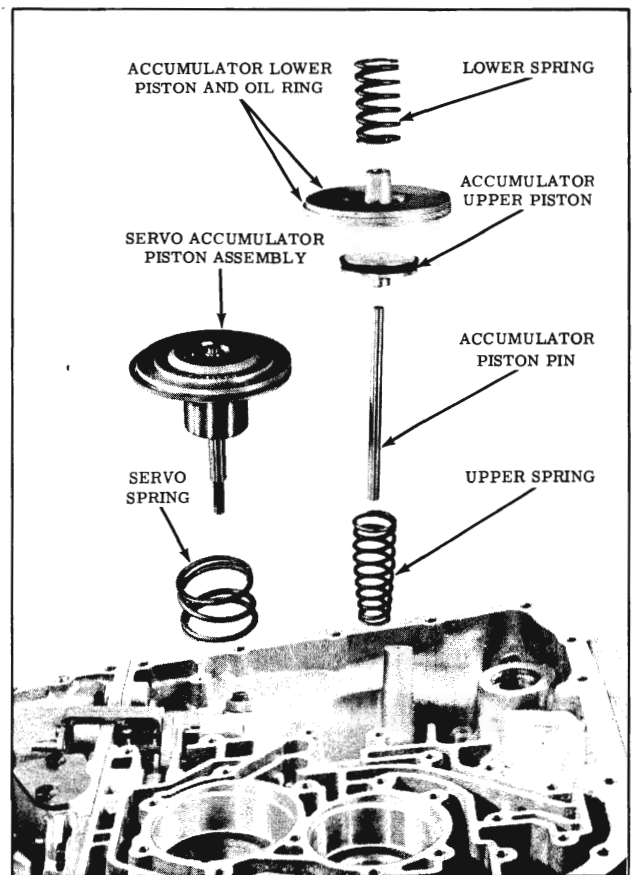

Fig. 3-227 Servo and Accumulator Pistons
17. Remove the servo and accumulator pistons and springs as shown in Fig. 3-227.